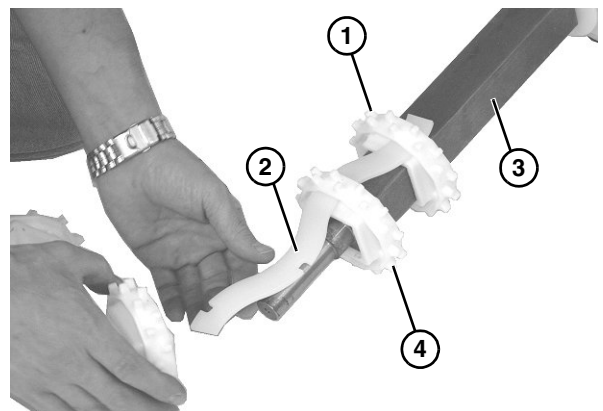

Figure 31
12. To assemble sprockets onto drive spindle, slide one sprocket (**Figure 31, item 1**) onto alignment bar (**Figure 31, item 2**) and slide assembly onto drive spindle (**Figure 31, item 3**).
13. Install second sprocket (**Figure 31, item 4**) and subsequent sprockets one by one, while sliding entire assembly onto alignment bar and spindle.